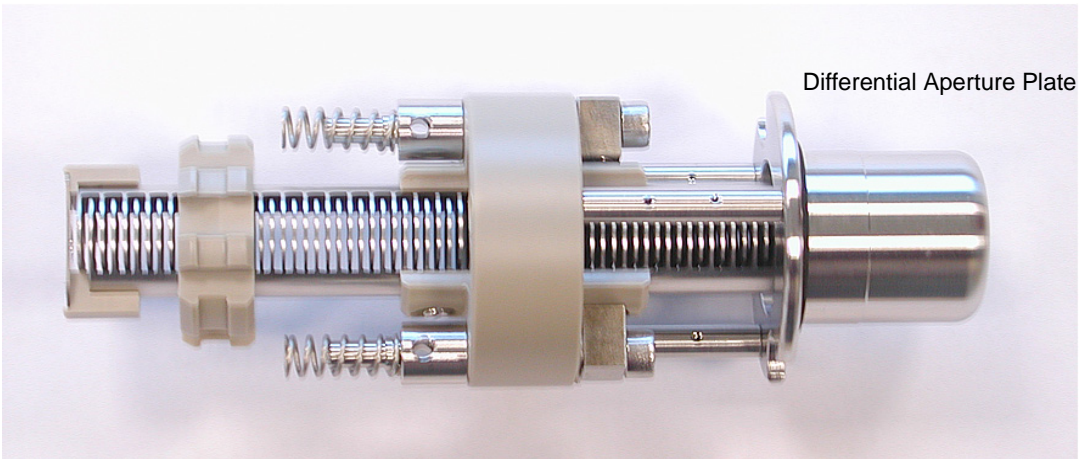

Figure 8-6 Source Ion Guide Assembly
3. Carefully remove the source assembly (see Figure 8-6) from the pumping block.